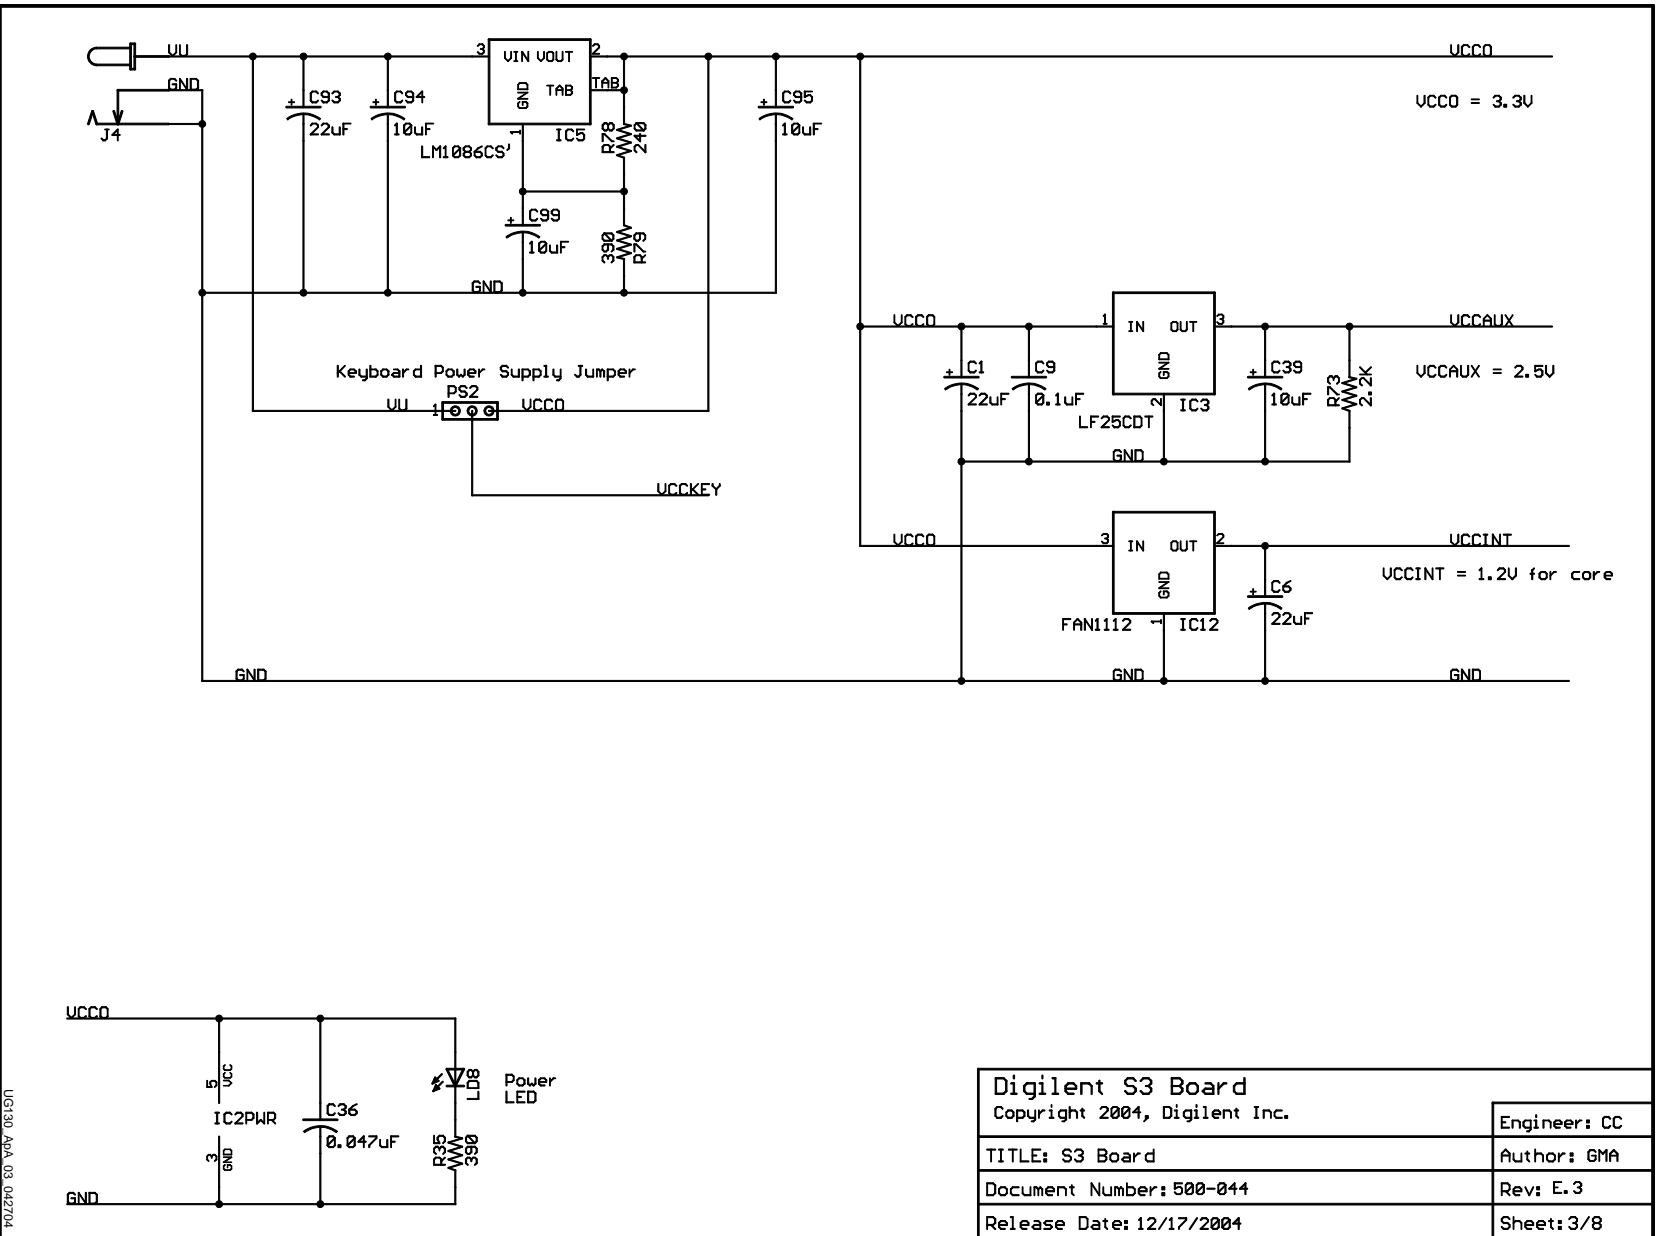

Figure A-3: Voltage Regulators, JP2 Jumper Setting for PS/2 Port Voltage
- Figure A-3, "Voltage Regulators, JP2 Jumper Setting for PS/2 Port Voltage"